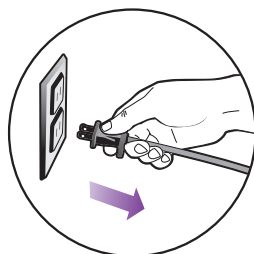

fig. 1
- 1 Clean under furniture and tight areas using the **Shark® Backsaver™** locking handle. Press the handle release button and apply slight pressure to bend the handle. The **Shark® Backsaver™** joint will lock at a perfect, access-maximizing angle. (**fig. 1**)
- 1 When you have finished using the **Light & Easy™** Steam Mop, unplug the cord from the outlet and place the mop into the upright position (**fig. 1**) and let the unit cool 2-3 minutes. Release steam by pumping the handle several times.